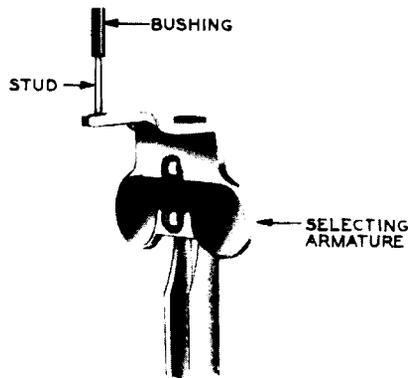
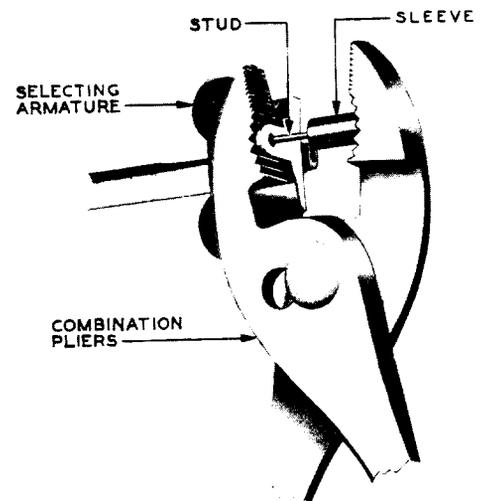

Fig. 11 – Bushing and Armature
Fig. 12 – Method of Installing Bushing
3.27 Selecting Armature Bushing: Remove the selecting bar as covered in 3.05. Remove the bushing from the stud by crushing it with the P-long-nose pliers. Round off the crimped end of the stud with the P-long-nose pliers to permit pressing on the replacing bushing. Place a new bushing in position on the end of the stud as shown in Fig. 11. Place the P-10A200 sleeve (steel) over the bushing. Force the bushing on the stud and against the armature with the combination pliers, as shown in Fig. 12, being careful not to break the bushing. After the bushing is in place, flatten the tip of the stud with the P-long-nose pliers. Remount the selecting bar as covered in 3.05.